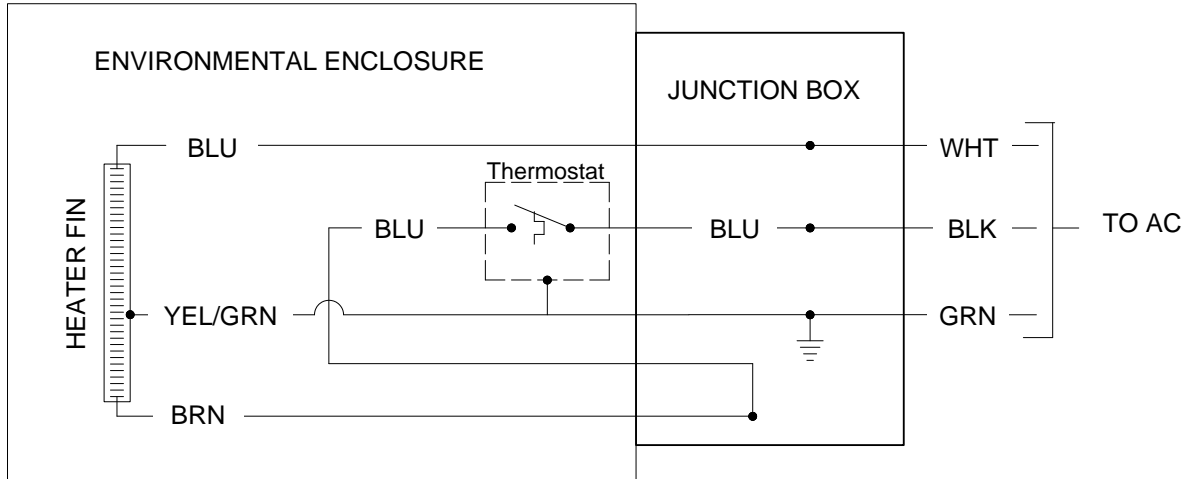

Figure 3-57 Electric Heater Option Wiring Instructions
- 1) Using the wiring instructions shown in Figure 3-57 and manufacturer's instructions enclosed with heater, make external connections.